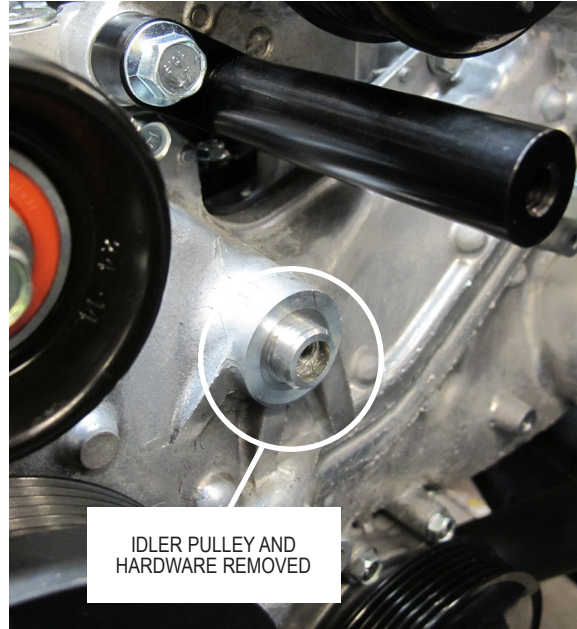

Fig. 3D
- E. Remove the grooved idler pulley (directly below the alternator pulley) and the two smooth idler pulleys from the front engine cover and set aside. See Figs. 3D, 3E.